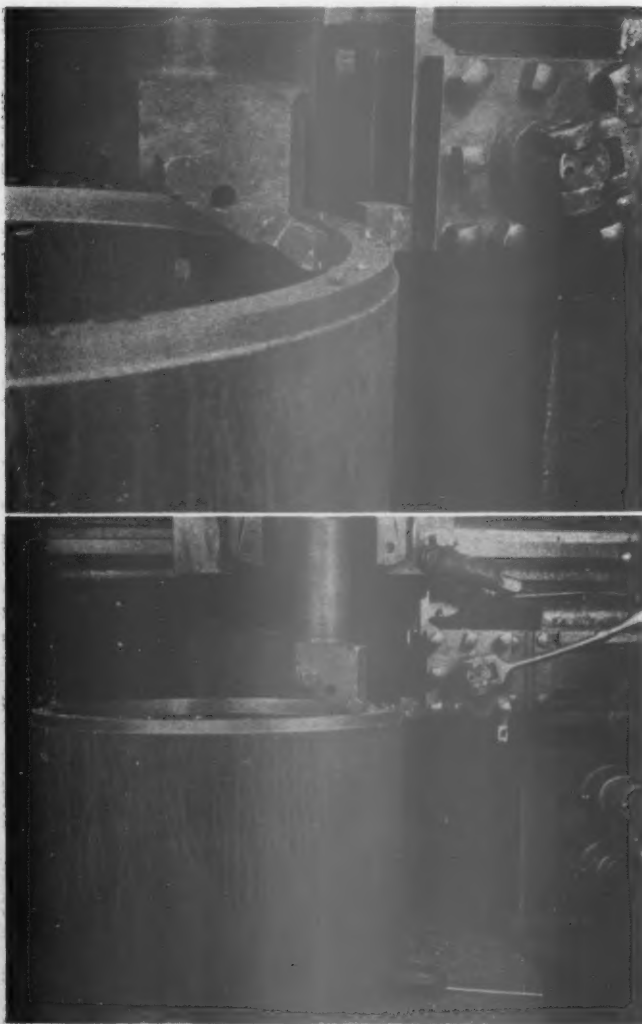

Fig. 5—Two views of the turning and boring tools starting the two-cut operation on a rough tub
After the rough tub for the plain rings is set up on the vertical turret lathe table the first operation is to face off the top of the tub. This is done with a tool in the main head, using a feed of .068 in. and a cutting speed of 100 ft. per min. The next operation is to bore and turn the entire length of the tub. These two operations are performed simultaneously with one cut, as shown in Fig. 5, the boring tools being mounted in the main head and the turning tools in the side head. The tools used are shown in Fig. 3 (A).